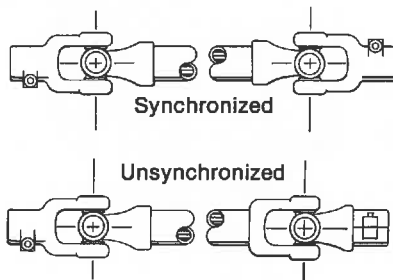

Figure 6
3. Make sure tumbling bar (coupling shaft) is assembled with its universal joint knuckles "synchronized," as illustrated in Figure 6. If knuckles are not synchronized, the bar will chatter when rotating, which will cause the generator output voltage to fluctuate.
| | Tumbling bar U-joints not synchronized. | Reassemble tumbling bar; see Figure 6. |